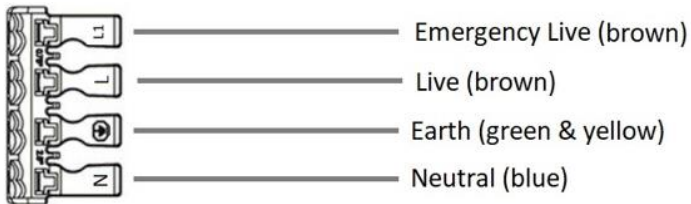

Fig. 2
- Ensuring correct polarity is observed, carefully wire as shown in Fig. 2
- Connect to the mains supply ensuring the correct polarity is observed: L – Live, L1 – Emergency Live (brown), E – Earth (green/yellow), N – Neutral (blue) (see Fig. 2). Two cables can be inserted into the push-fit terminal block in order to achieve loop-in/loop out wiring